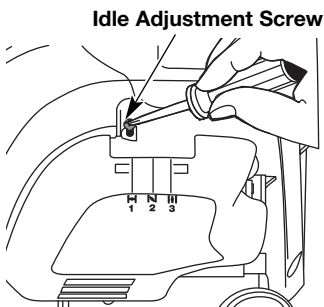

Fig. 33
The idle speed of the engine is adjustable. An idle adjustment screw is between the air filter cover and the engine starter housing (Fig. 33).
2. Release the throttle trigger and let the engine idle. If the engine stops, insert a small phillips screwdriver in between the Air Filter Cover and the Engine Cover (Fig. 33). Turn the idle speed screw in, clockwise, 1/8 of a turn at a time (as needed) until the engine idles smoothly.